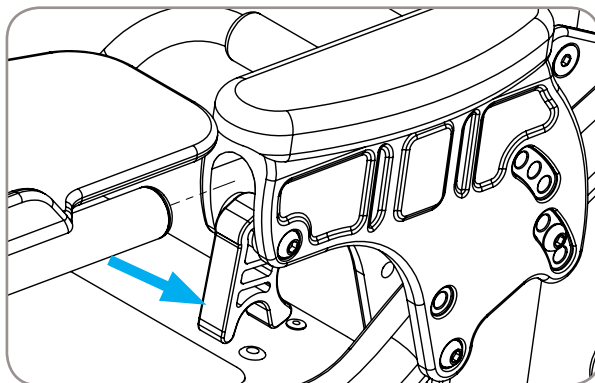

Figure 29
1. To insert tray, swing left and right tray cam locks downward. Reference Figure 29.